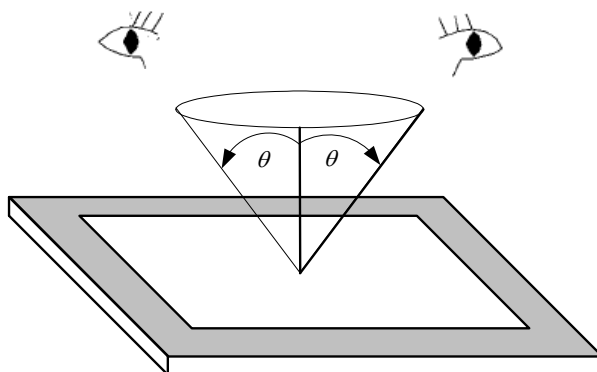

Fig 12.1
- The viewing zone is defined with angle  $\theta$  shown in Fig. 12.1 The inspection should be performed within  $45^\circ$  when display is shut down. The inspection should be performed within  $5^\circ$  when display is power on.